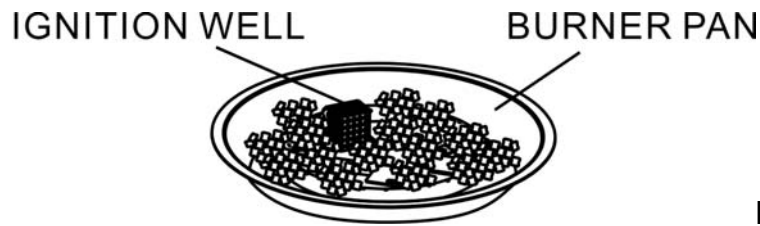

Figure 4
4. Pour ALL of the provided media (fire ice) into the burner pan. The burner MUST be completely covered to ensure the appliance functions properly and safely. Remove any fire ice on top of the ignition well. See figure 4.